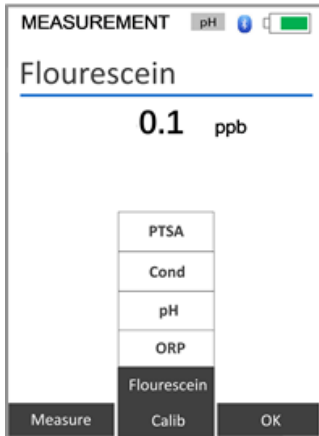

Figure 25. Select fluorescein calibration
5. If the displayed Target numeric value is not that the value you want, use the keys labeled – and + (the < and > keys) to adjust the value as desired. Holding a key down scrolls the values at a faster rate. Once the value is as desired, press **Set** to confirm the numeric value to be used. The black bar updates as in Figure 24 (The label above the **OK** key now changes to **Calib** from **Set**). Press **Calib**. The screen updates to Figure 25 with the confirmation popup.
4. Press **Calib** once. Fluorescein will be selected in the calibration selection menu (Figure 25).